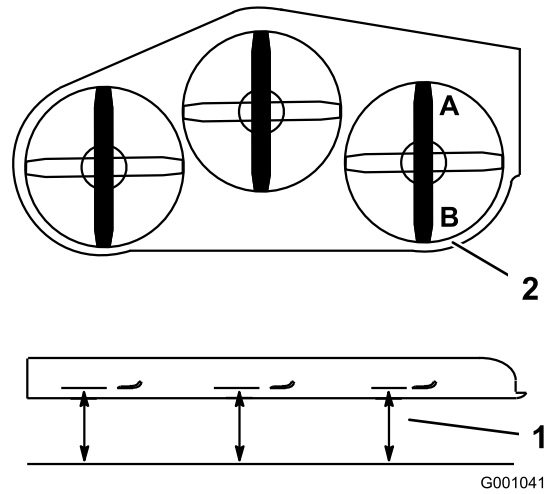

Figure 83
1. Position the right blade front-to-rear (Figure 83).
2. Measure the right blade at the **A** location, from a level surface to the cutting edge of the blade tip (Figure 83).
4. Measure the right blade at the **B** location, from a level surface to the cutting edge of the blade tip (Figure 83).
6. The mower blade should be a 1/4 to 3/8 inch (6 to 10 mm) lower at position **A** than at position **B** (Figure 83). If it is not correct, proceed to the following steps.